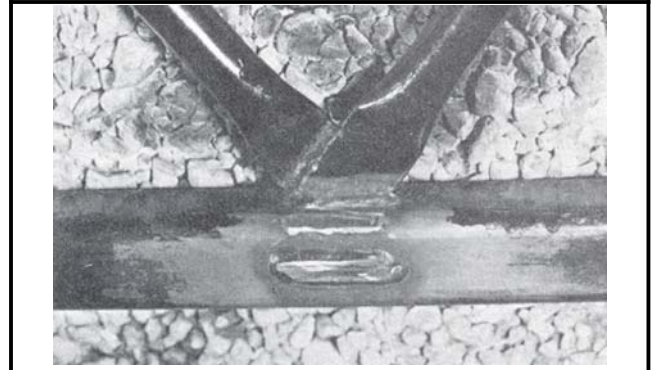

**Figure 12
1. Remove the lattice, diagonal, or picture frame lattice above the chord along section C- C in Figure 12.